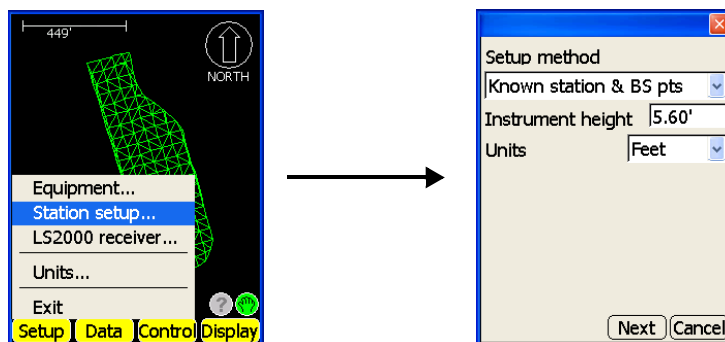

Figure 5-2. Start Initialization
3. Press **Setup ▶ Station setup** to configure the GRT-2000 (Figure 5-2).
4. On the **Setup method** dialog box, select *Known station & BS pts* from the drop-down list (Figure 5-2) and press **Next**.
At step 4 (page 5-2) of the startup process, you can choose from several options (Figure 5-2 on page 5-2) to determine the station's position and the circle orientation. The following is a description of the different methods available to determine the LPS Station's coordinates.